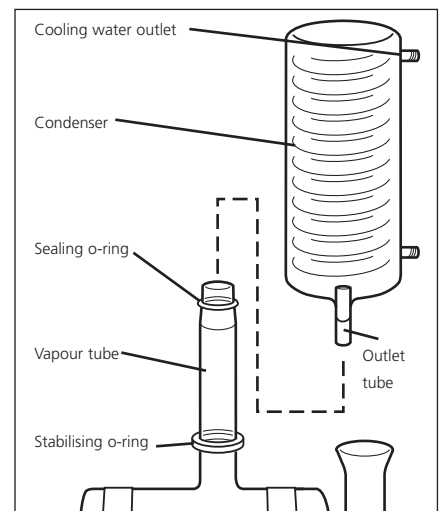

Figure 3a
- 5 Ensure that the sealing o-ring and stabilising o-ring are correctly positioned, as shown in Figure 3a. Position one of the condensers WC48/M2 onto the left hand vapour tube of the boiler with the distillate outlet tube facing the front. See fig. 5.
- 7 Ensure that the sealing o-ring and stabilising o-ring are correctly positioned, as shown in Figure 3a. Position the second condenser WC48/M2 onto the right hand vapour tube of the boiler with the distillate outlet tube facing the front and make the following tube connections:-
- i) the cabinet base, item 25, if the A8000 is to be wall mounted.
- ii) the cabinet side, item 19, if bench mounted.
- 10 Take the 1000mm length of 16mm tubing and push through the larger of the three holes, item 21, on the side of the cabinet. This may be easier if the tubing is lubricated by wetting it with water. Continue until the tube extends approximately 250mm into the main chamber.